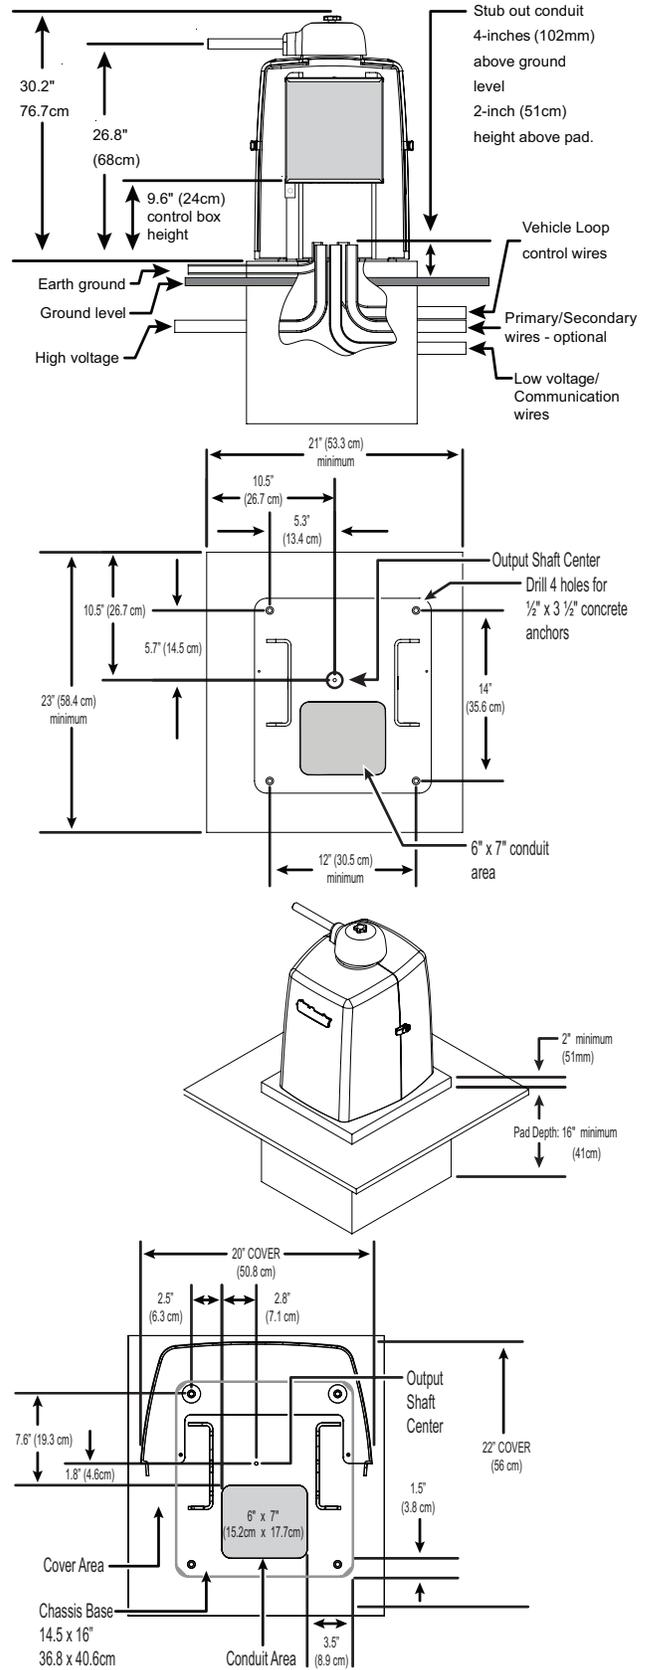

Figure 3. Pad Condition and Dimensions
1. Follow the local building codes to identify the frost line and determine the required depth of the concrete pad. HySecurity recommends a minimum 16-inch (40.6cm) depth with a minimum 2-inch (51cm) extension above ground level. Refer to Figure 3.
2. Before pouring the pad, consider conduit placement so it fits within the confines of the cutout in the SwingSmart base plate as shown in Figure 3. Run separate conduits for:
SwingSmart provides a 6 x 7-inch (15.2 x 17.7cm) cutout in its chassis base for conduit. Refer to Figure 3. The design also provides a 9.6-inch (24.4cm) height between the control box and chassis base for pulling and placement of wires.
3. Extend conduit height 2-inches (51mm) above the pad (4-inches/102mm above ground level). Make sure the concrete forms are square with the gate and the pad is level. Refer to Figure 3 for minimum pad dimensions.
- Appropriate distance from the gate. Refer to Figure 3.